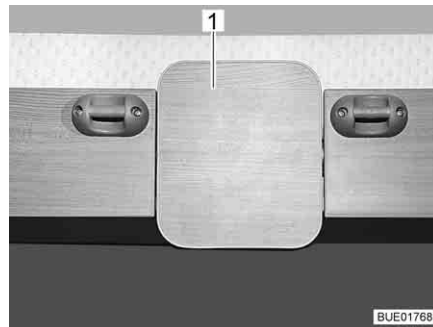
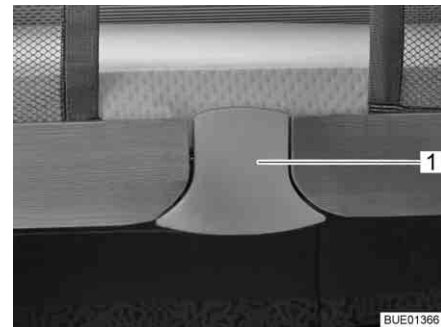

Fig. 77 Release (Premio Plus)
Fig. 78 Release (Averso Plus)
- Pull out the release area (Fig. 77,1 or Fig. 78,1) at the bottom. The lock is released.